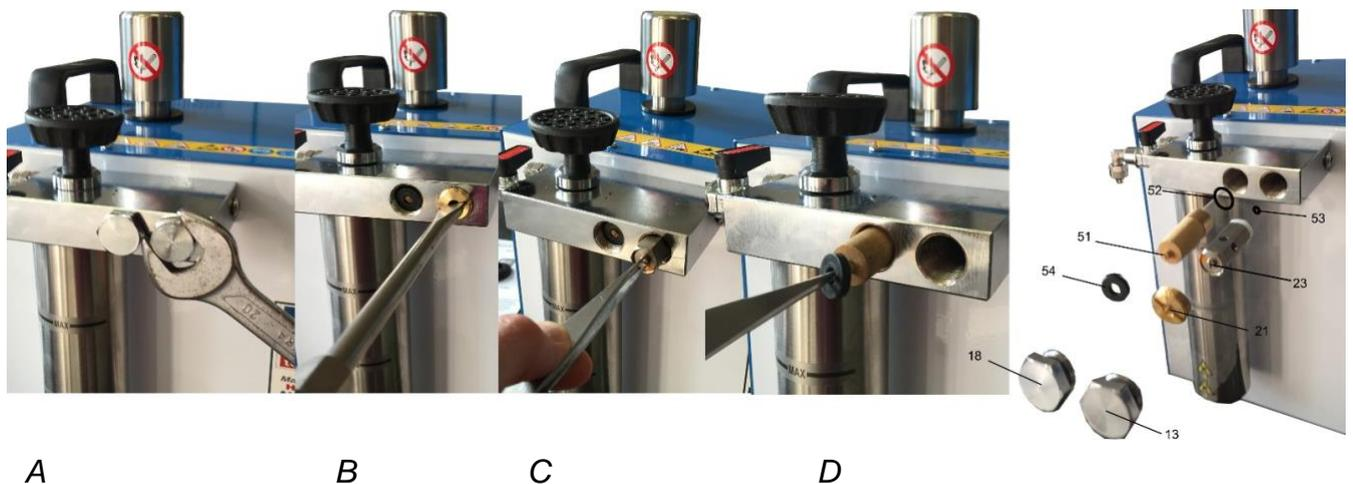

FIG. 4
- 1) Turn off the welder and remove the pressure gauge or safety cap (Fig.4 # 2, page 25).
- 2) Unscrew the check valve cap (Fig. 4; A # 13).
- 3) Unscrew the threaded disk (Fig. 4; B # 21).
- 5) Install the new valve and relevant "O.ring" (Fig. 4; C # 23, 53).
- 6) Tighten the threaded disk 21, the check valve cap 13, and safety cap (Fig.4 # 2).